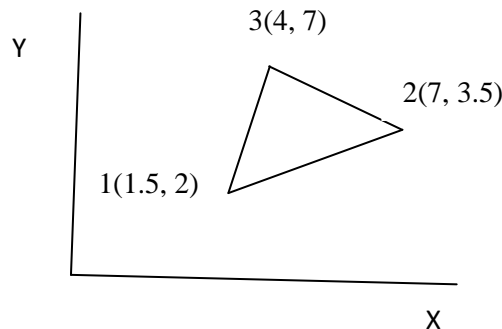

Fig .2.
13. (a) Determine a Jacobian matrix and transformation equation for the element shown in fig .2.